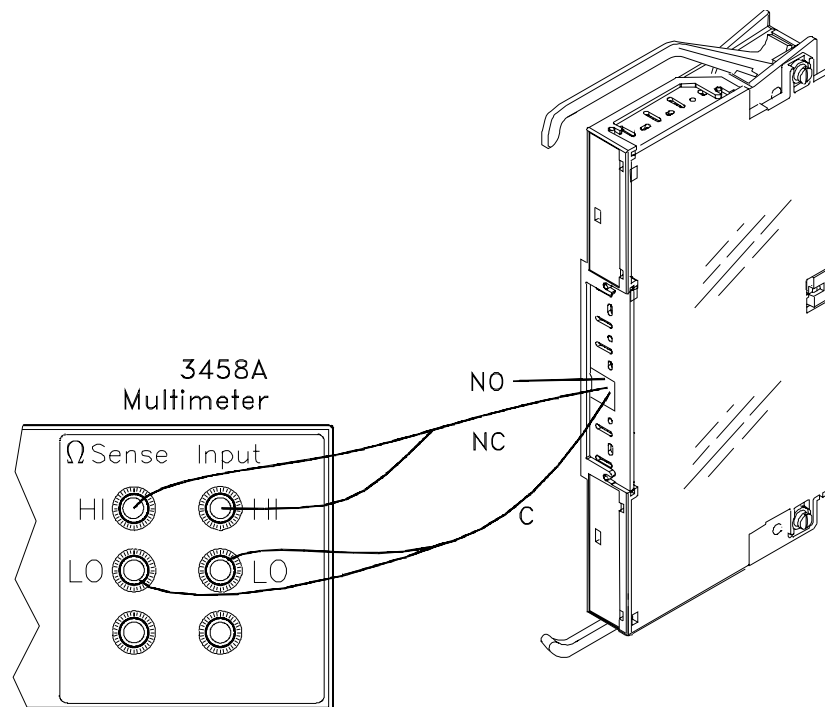

Figure 2-3. Common to NC Test Connections
- Connect DMM leads as shown in Figure 2-3